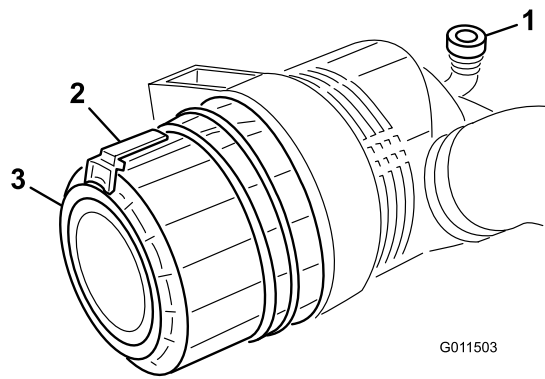

Figure 45
1. Pull the latch outward and rotate the air cleaner cover counterclockwise (Figure 45).